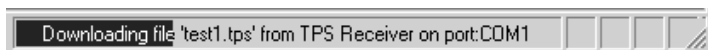

Figure 2-9. Import Progress
- Click **Next**. The Status bar displays the import progress (Figure 2-9).